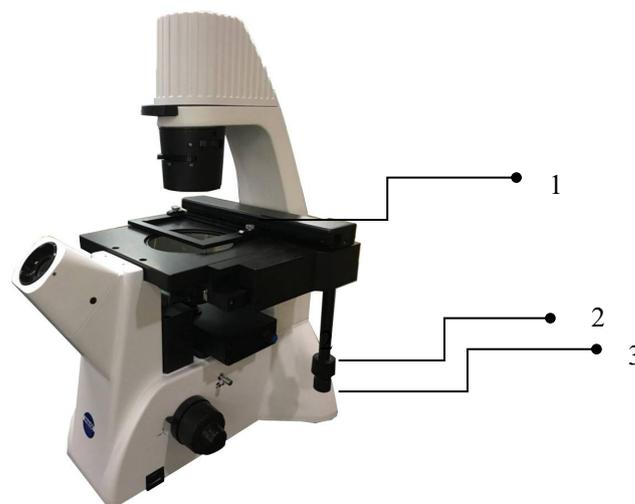

Figure 09
(1) Stage moving ruler 1 (Y) and (X) direction moving is controlled by hand wheel 2 and 3, as figure 09.